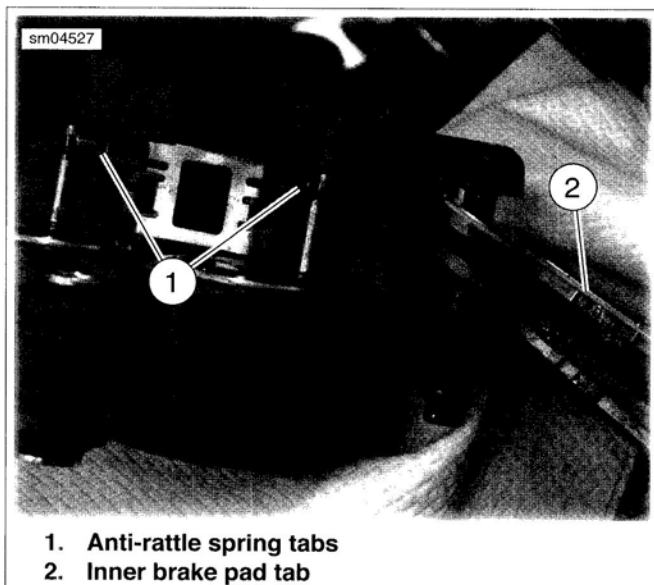

Figure 1-38. Anti-rattle Spring
10. See Figure 1-38. Inspect anti-rattle spring. Replace if worn, damaged, or corroded.